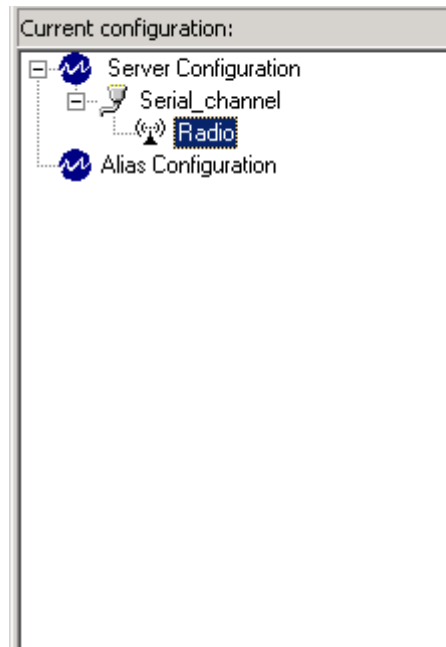

Figure 37 - New Radio Link
9. The object is created and appears as a child of the **Serial Channel** item as show in Figure 37.